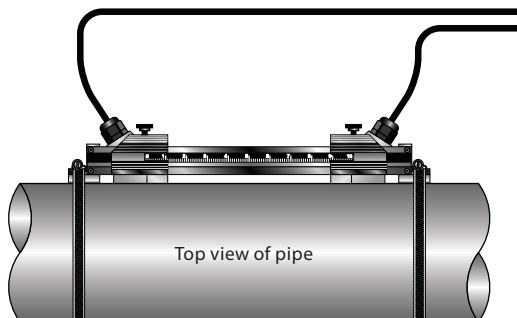

Fig. 23 Mounting track installation
- 5) Place the first transducer inbetween the mounting rails near the zero point on the scale. Slide the clamp over the transducer. Adjust the clamp/transducer such that the notch in the clamp aligns with zero on the scale. See Fig. 23.